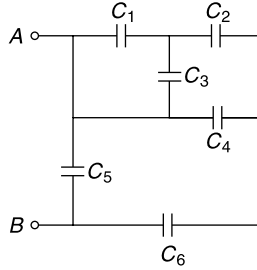

Fig. 2.55 Capacitance configuration of Ex. 2.49
2.49 Find the equivalent capacitance between *A* and *B* in Fig. 2.55. Assume the capacitances are equal to each other and having a value of $2 \mu\text{F}$ each.
We can reduce the given circuit as shown in Fig. 2.55(a).